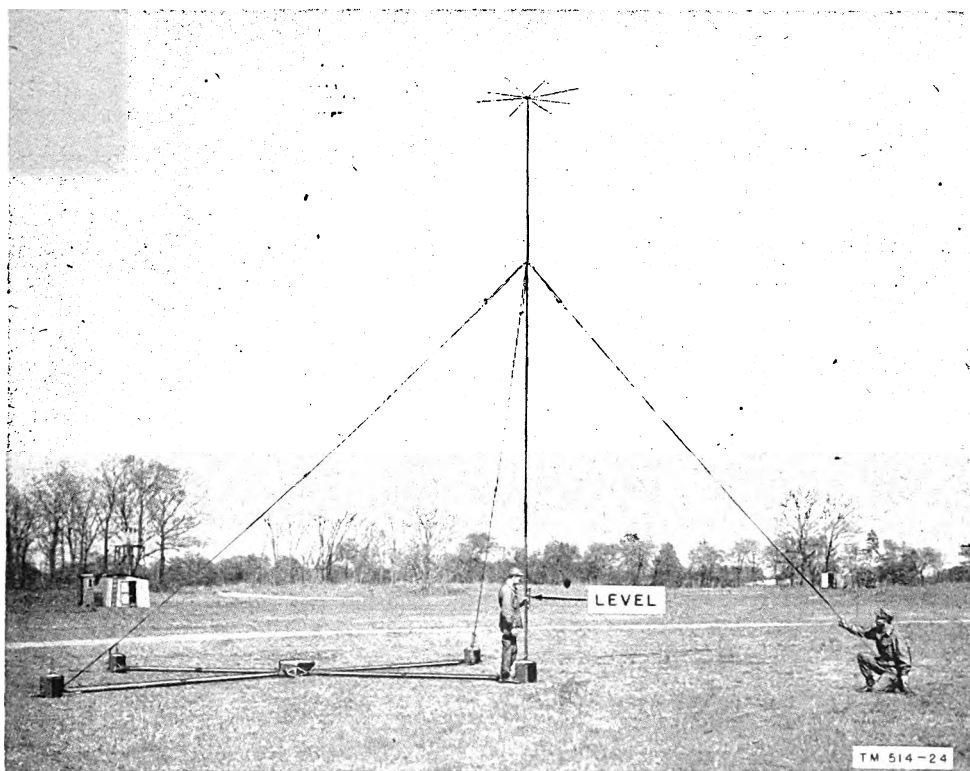

Figure 36. Adjusting guys.
- (2) When the mast has been raised to its vertical position, slide the bottom end over the shaft extending above the top of the antenna support. Tighten the coupling ring.
- (3) Attach the third guy line to the antenna support located at the left of the mast.
- (4) Take up the slack in the guy lines by adjusting the slide fasteners at the ground end (fig. 36).